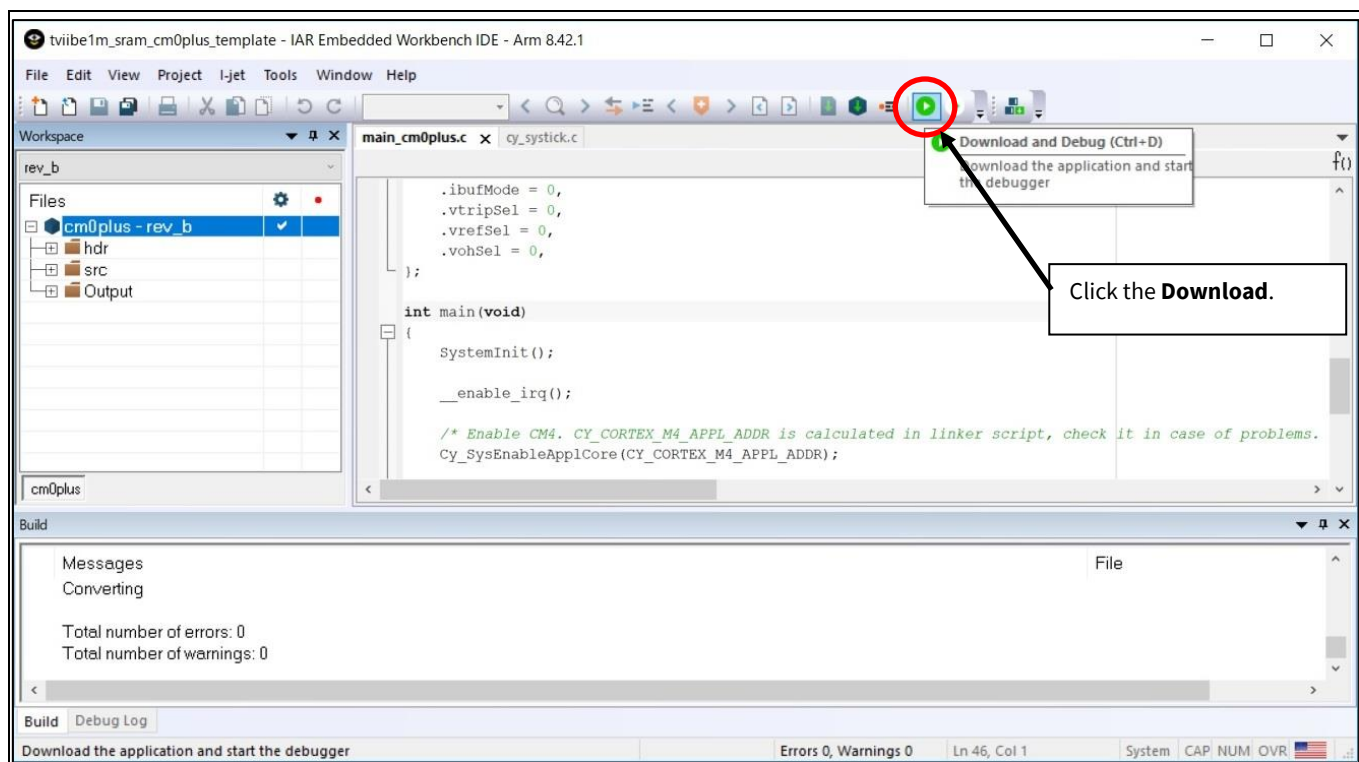

Figure 23 Debug the project of SDL project
3. To load the program to the RAM, click the **Download** icon as shown in Figure 23.